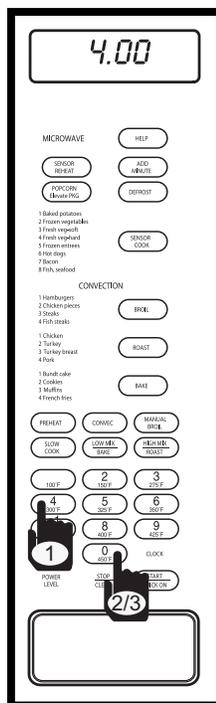

Figure 3-36.
1. Enter desired defrost time duration. For example: 4 minutes; press the number 4 key, and number 0 key twice (See Figure 3-36), the display will flash “4.00 - PRESS - START - OR - PRESS - POWER LEVEL - ”.